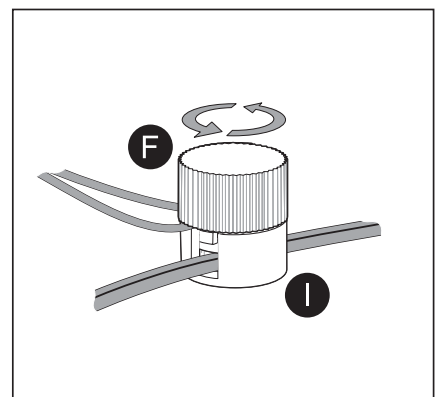

Fig. 7
5. Install and screw the cap (F) on to the base (I). Screw the cap until it is secure taking care not to over tighten (Fig. 7).